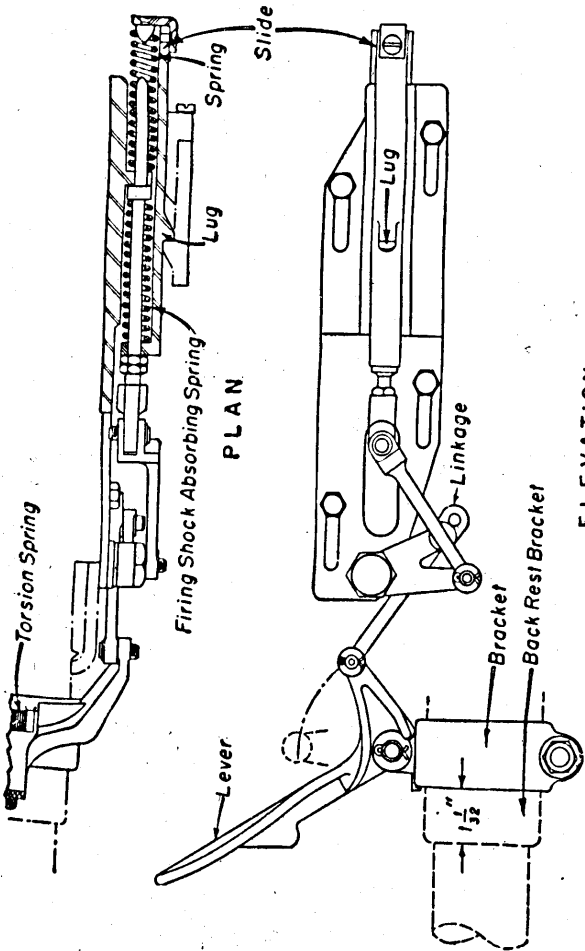

FIGURE 61.—Trigger control mechanism.
(6) During firing if a gun is vibrating to a greater extent than normal, the length of recoil should be checked by spreading a thin film of grease on the lower recoil spring housing and firing the gun in a horizontal position. The length of recoil should be approximately $\frac{1}{2}$ inch as shown by the distance the grease has been pushed back after the firing of the gun. If the recoil length is more or less than $\frac{1}{2}$ inch, the adjustment of the lower recoil spring should be checked. If adjustment of lower recoil spring is correct or adjustment is made, and recoil length is still too long or short, the adjustment of the component spring should be checked. If the adjustment of the component spring is found to be correct or adjustment is made and recoil length is still too long or short, the gun may have a bad barrel.
■ 94. TRIGGER CONTROL MECHANISM.—*a.* The trigger control mechanism (fig. 61) includes a lever, linkage, slide with lug, frame, and three springs. The lever is mounted on a bracket which is clamped to the back rest bracket on the left side of the cradle. The lever is connected through a linkage to the slide which contacts the side-plate trigger. The slide and two coil springs are supported by a frame which is attached to the left side frame of the cradle. A torsion spring is attached to the lever.